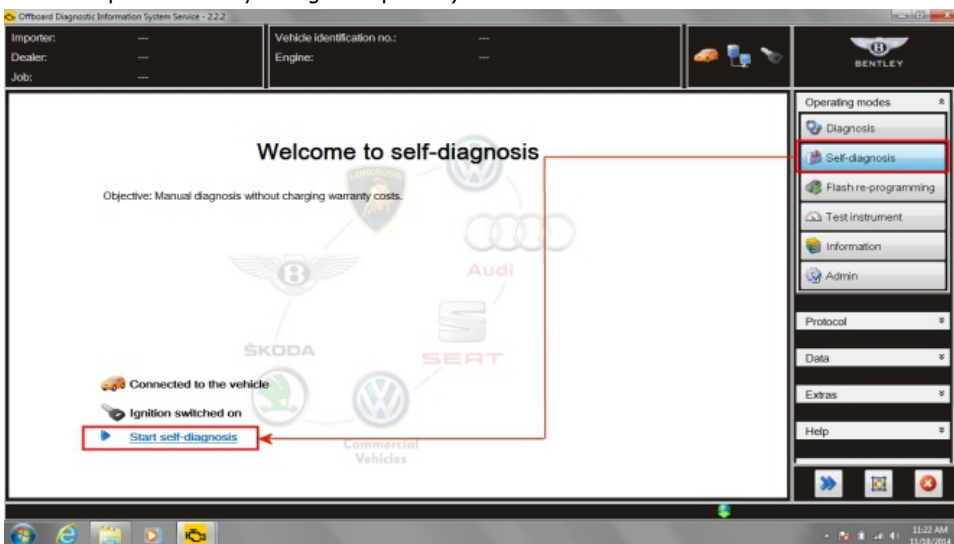

Figure 1
2. Switch on the ignition and select *Self diagnosis* on the tester (see Figure 1)